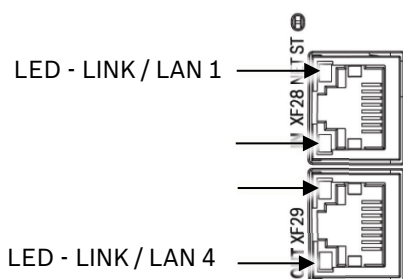
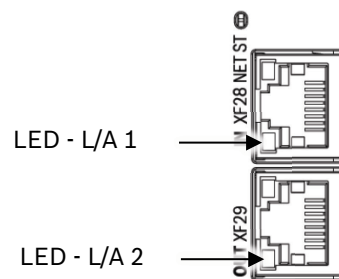

Fig. 238: Activated LEDs at Ethernet 1 - LINK / LAN
Fig. 239: Activated LEDs at Ethernet 1 - EtherCAT L/A
1) The exact usage of the LEDs can be seen in Fig. 238: Activated LEDs at Ethernet 1 - LINK / LAN and Fig. 239: Activated LEDs at Ethernet 1 - EtherCAT L/A